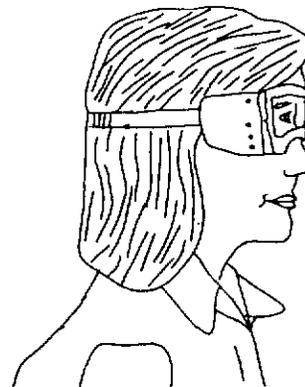

Figure 2-4
**232.5 Protective Equipment.** While performing tasks, such as stripping floors, custodians should wear proper footwear and protective safety equipment. Before using cleaning chemicals, disinfectants, neutralizers, and floor finishes, always read and follow manufacturer's label instructions. If a product contains ingredients that are flammable, caustic, or irritating to the skin, wear proper protective safety equipment, such as face shields, safety gloves, and apron. (See Figure 2-4.) Always use chemical-resistant gloves when hands are put in cleaning, stripping, or sealing solutions. Use products that have objectionable odors only in areas that are properly ventilated and contain very few people.